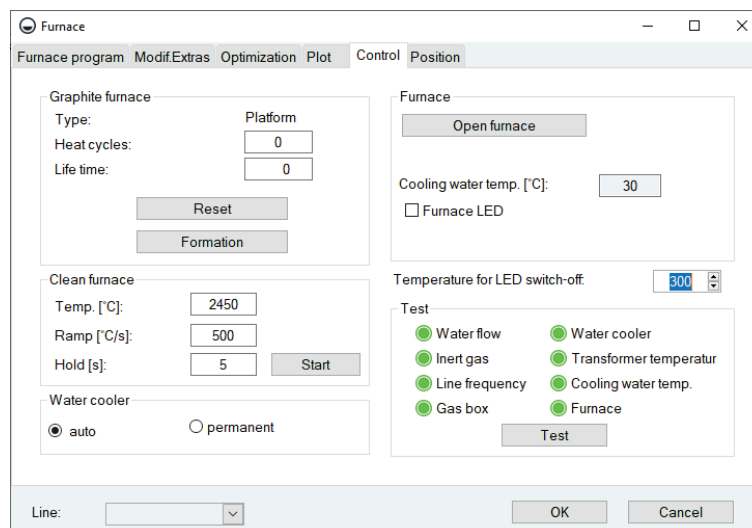

Fig. 42 Dialog window Furnace / Control
1. Use the [OPEN FURNACE] button in the FURNACE / CONTROL window to open the graphite furnace (Fig. 42 on page 64).